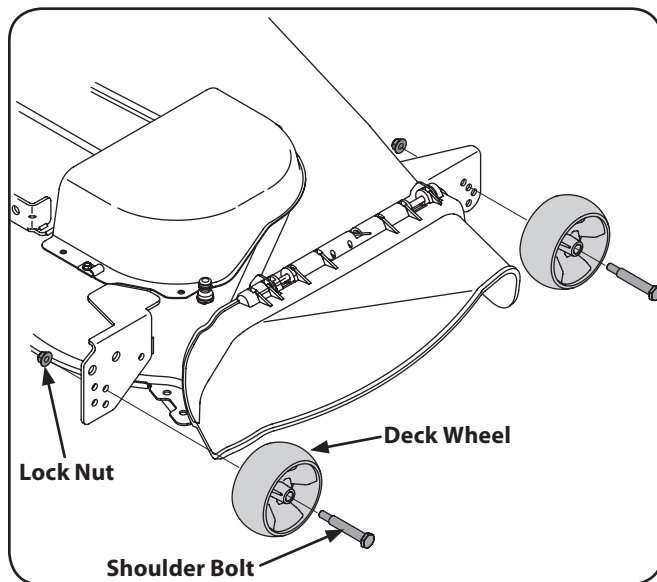

Figure 6-6
- b. Remove the deck wheels by removing the lock nuts and shoulder bolts which secure them to the deck. See Figure 6-6.